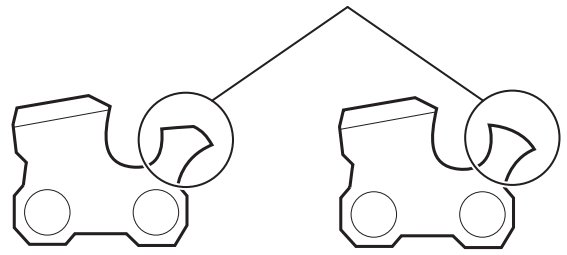

Fig. 37
- After lowering the depth gauge, use the flat file to restore the original rounded shape to the depth gauge (Fig. 37). Take care not to damage the cutting edges or nearby links.